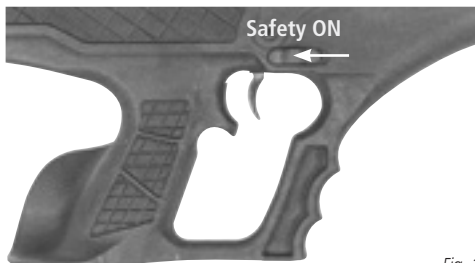

Fig. 1
- To set the safety to 'ON', pull safety button to the rear. In this position, the trigger cannot be pulled and the gun cannot be fired. (Fig.1)